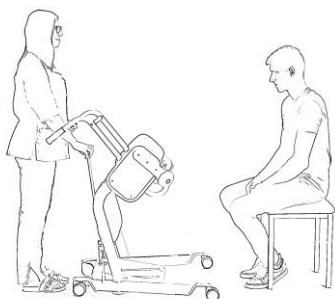

Fig. 1
- 3 Adjust the flexible base of the Mover, if needed, and approach the patient. (See Fig. 1.)